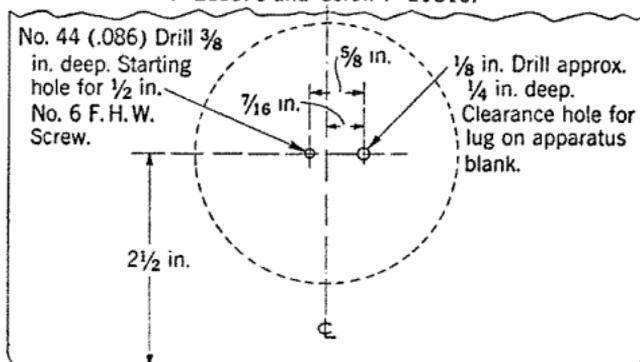

Fig. 5
5.01 If a station number card is required, either P-215591 or P-225816 may be attached to the front of the door of this set as indicated in Fig. 5. The station number card holder and station number card should then be added.